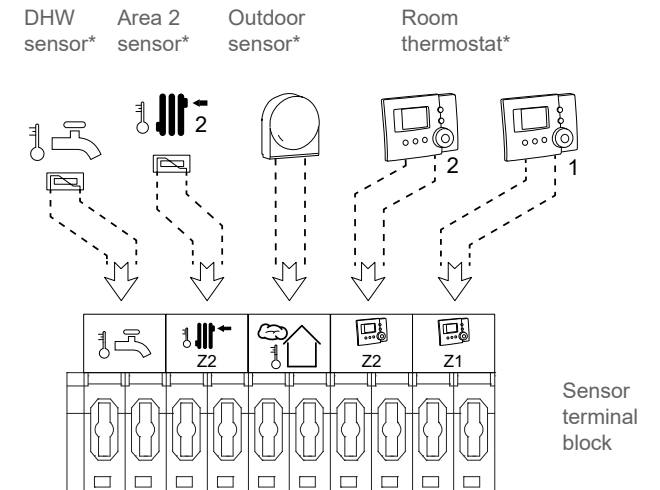

fig. 46 - Connections to the HP controller (accessories and options)
- Connect the outdoor sensor (fig. 46).
Connect the room thermostat 1 (*fig. 46*).
Connect the room thermostat 2 (*fig. 46*).